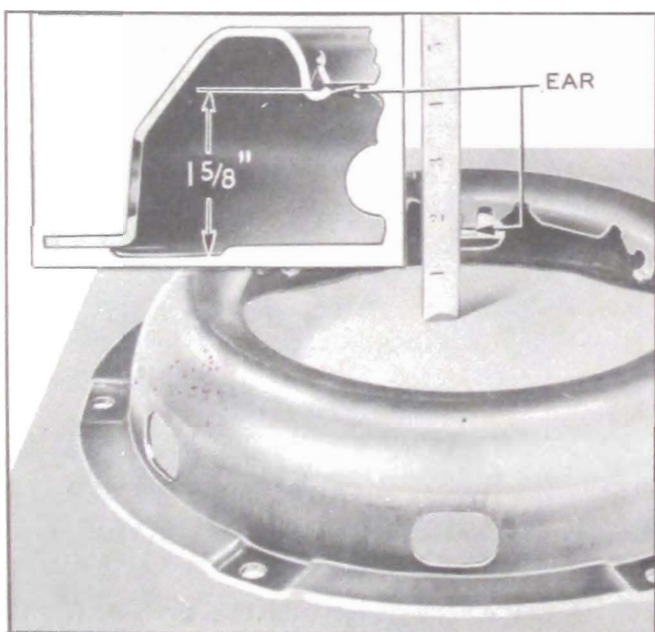
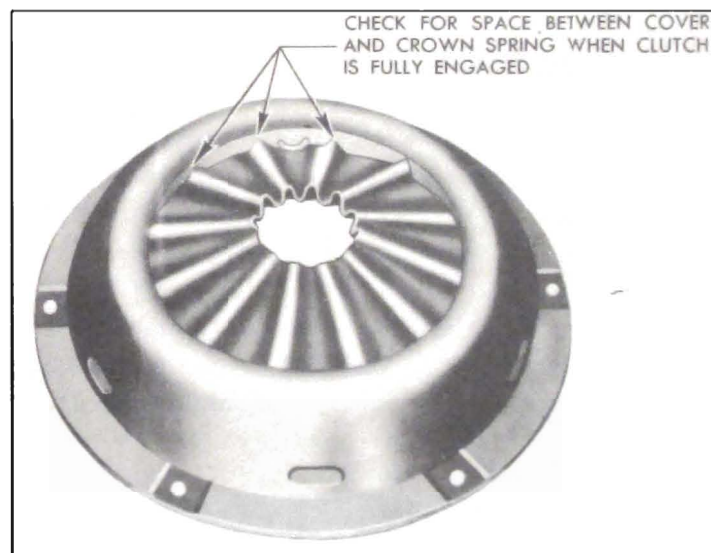

Figure 4-11—Setting of Spring Retainer Ears on Cover
Figure 4-19—Checking Contact of Clutch Spring with Cover—Series 40-50
2. *Clutch Cover—Series 40-50.* Inspect clutch cover for cracks or distortion. Place cover on a flat surface and measure setting of each of the six ears where spring retainers are attached. The dimension from flange surface of cover to top surface of each ear should be  $1\frac{5}{8}$  inch. See figure 4-11. If dimension is not  $1\frac{5}{8}$  inch, and
9. On Series 40-50 clutch, have a helper hold clutch fully disengaged, then check with a feeler gauge for space between cover and clutch spring at points of contact. See figure 4-19. The clutch will not fully disengage if any one of the clutch spring contact points fails to solidly contact the cover. This condition must be corrected by removing clutch and properly setting the spring retainer ears on cover. See figure 4-11.